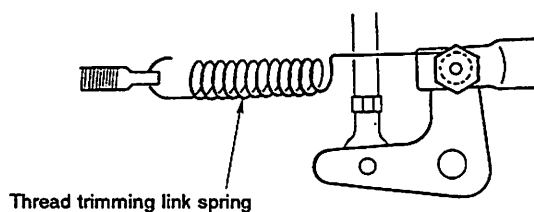

Fig. 5-15-4
- 4) Put the thread trimming link spring in between the spring peg and the washer of the hinge screw in the thread trimmer connecting rod. (Fig. 5-15-4)